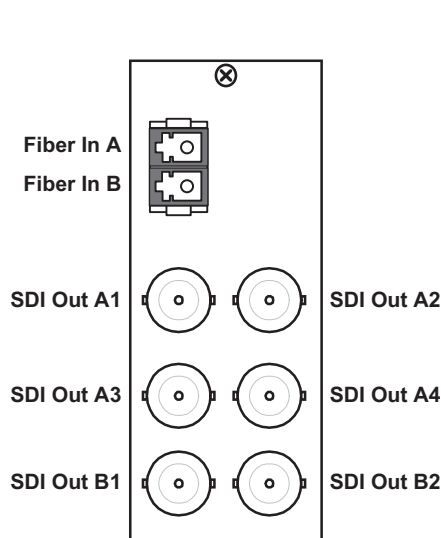

Figure 2.4 Cable Connections for the 8320AR-044 Rear Module
- **8320AR-044** Full Rear Module — Each rear module occupies two slots and accommodates one card. This rear module provides two optical inputs, and six SDI outputs. Refer to **Figure 2.4**.